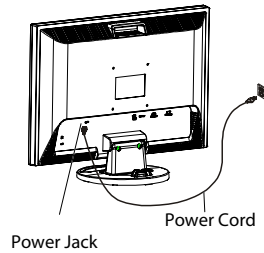

Figure1-6
1. Connect the power cord to the LCD Monitor.(See Fig. 1-6)